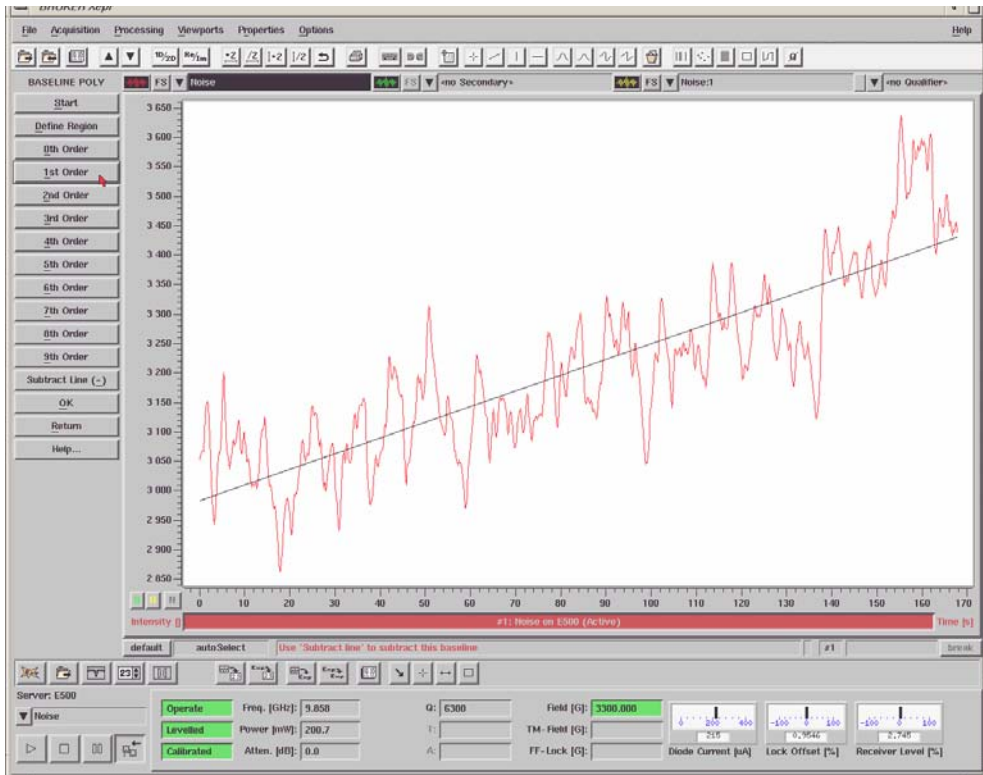

Figure 3-16 A linear baseline correction of the noise spectrum.
10. **Correct the linear drift of the baseline if necessary.** If the baseline drifts you can click the Baseline Corr. button in the Tasks bar and then click Polynomial. Click the 1st order button to perform a linear fit of the baseline. (See Figure 3-16.)